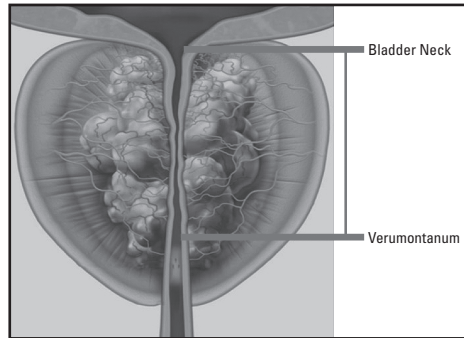

Figure 13. Prostatic Treatment Length.
7. Estimate the prostatic treatment length (i.e. from bladder neck to verumontanum). This length is considered the vapor treatment zone (Figure 13).